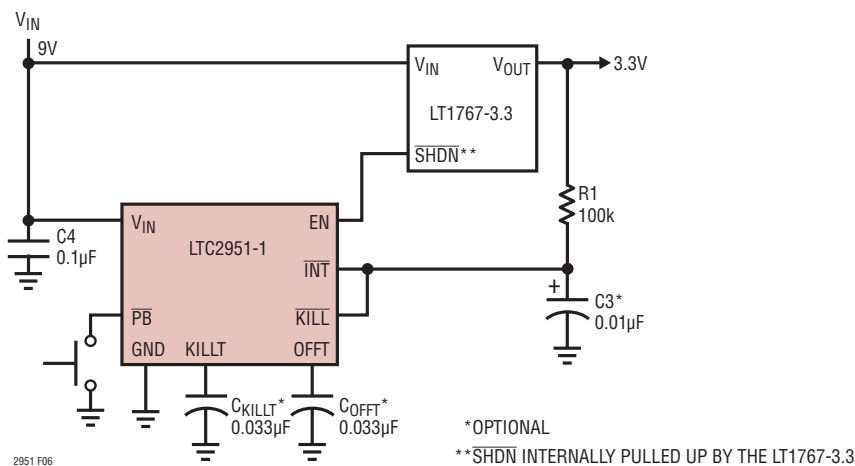

Figure 6. No  $\mu\text{P}$  Application
**$\overline{\text{KILL}}$  (Pin 8/Pin 5):**  $\overline{\text{KILL}}$  Input. Forcing  $\overline{\text{KILL}}$  low releases the enable output. During system turn-on, this pin is blanked by a 512ms internal timer ( $t_{\text{KILL, ON BLANK}}$ ) to allow the system to pull  $\overline{\text{KILL}}$  high. This pin has an accurate 0.6V threshold and can be used as a voltage monitor input. If unused, connect to a low voltage output supply (see Figure 6).
Figure 6 shows how to connect the  $\overline{\text{KILL}}$  pin when there is no circuitry available to drive it. The minimum pulse width detected is 30 $\mu\text{s}$ . If there are glitches on the resistor pull-up voltage that are wider than 30 $\mu\text{s}$  and transition below 0.6V, then an appropriate bypass capacitor should be connected to the  $\overline{\text{KILL}}$  pin.